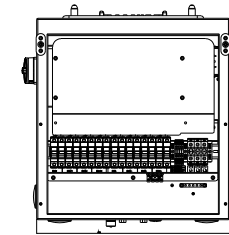

Figure 3.10 Eight (8) input channels
Figure 3.10 Shows eight (8) input channels for connecting DC strings. Each channel is protected by a fuse. The included fuses are rated at 20A. Replace fuses with like size and type.